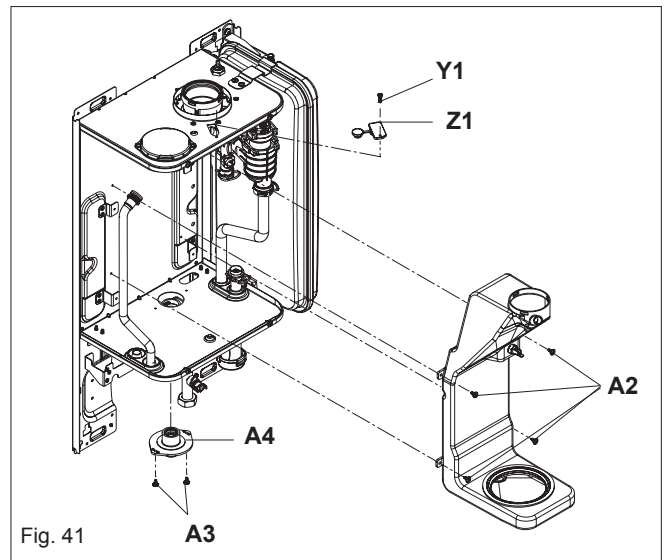

Fig. 41
## 6.20 FLUE COLLECTOR REMOVAL (fig. 41)
Set the flue gas analyser to read CO2 and insert the probe into the flue analysis test point (Y1-Z1 fig. 41).
- Insert the flue gas analyser probe into the flue gas test point (see fig. 41).